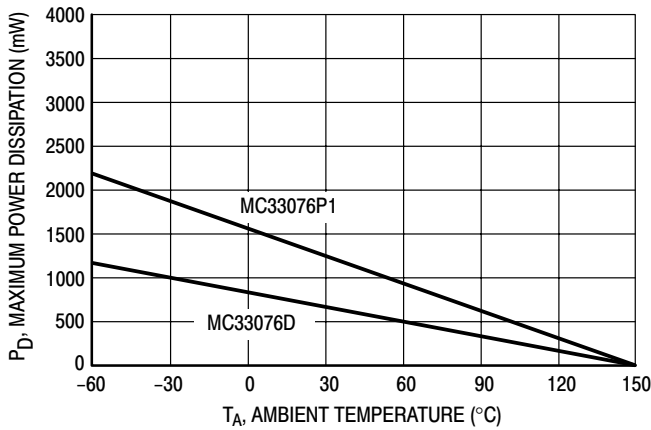

Figure 2. Maximum Power Dissipation versus Temperature
- Power dissipation must be considered to ensure maximum junction temperature (T_J) is not exceeded** (see power dissipation performance characteristic, Figure 2). See applications section for further information.